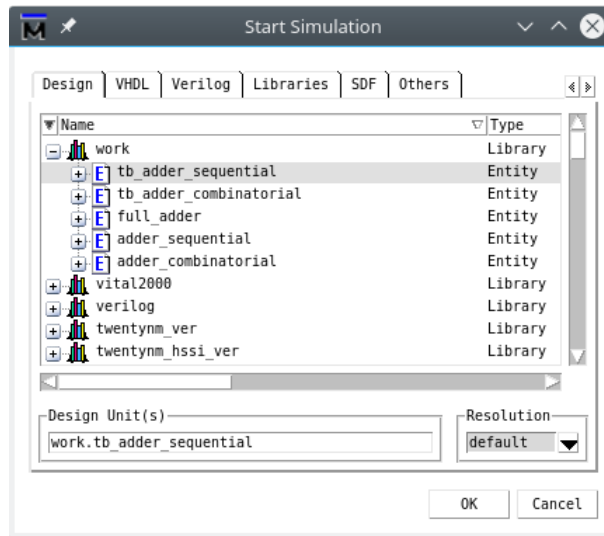

Figure 16: Start simulation
3. Select work > tb_adder_sequential, then press OK (Figure 16).